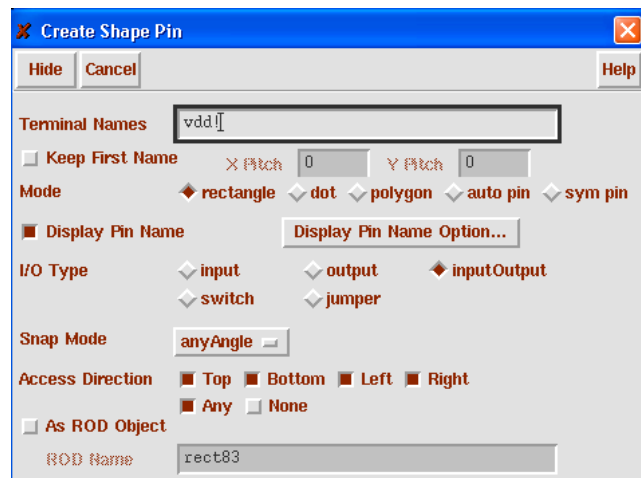

Figure 15. Create Pin window
1. Choose **Create->Pin...** from the menu. The Create Pin form will appear (Fig. 15).